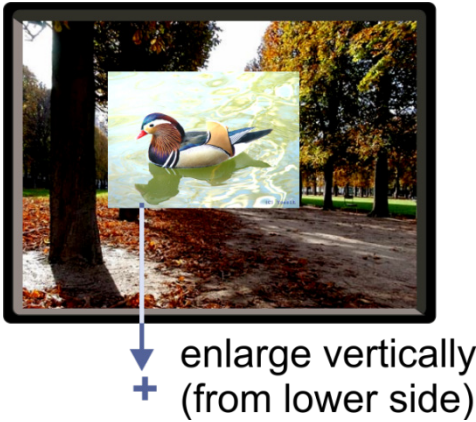

Figure 9: Increasing the Height
4. Select V Height (an OSD slide bar appears) and press + to increase the height, or – to decrease the height, see Figure 9.